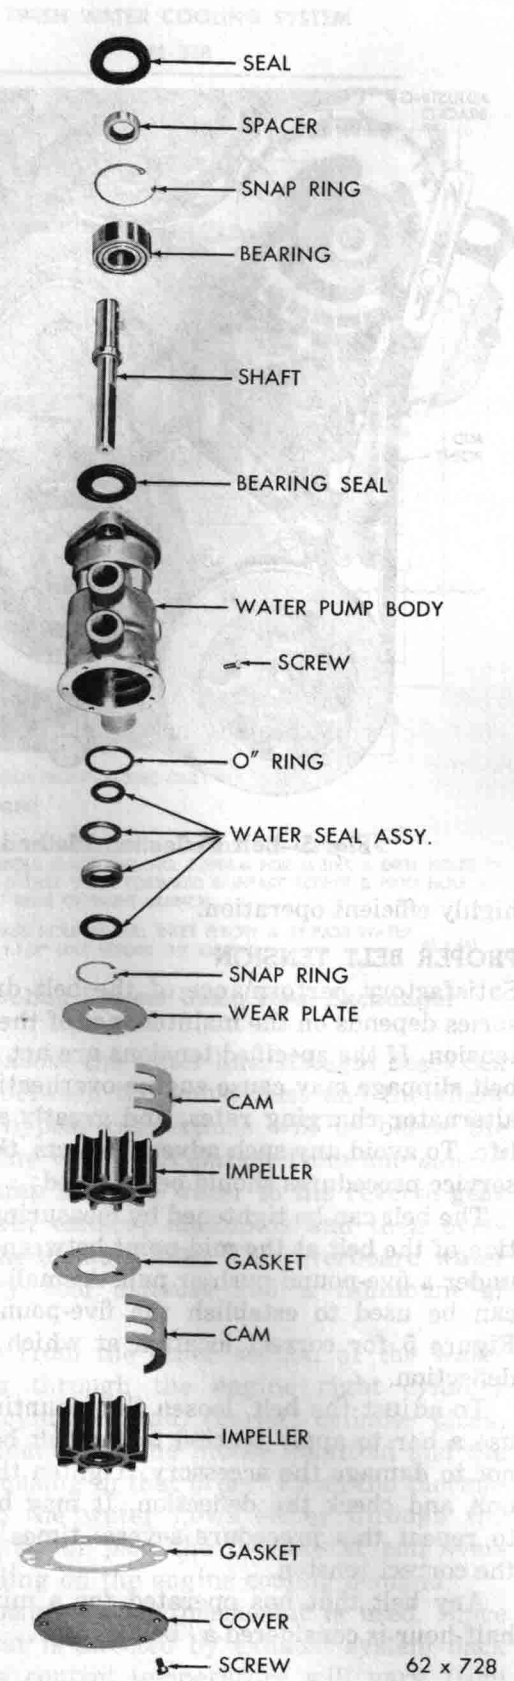
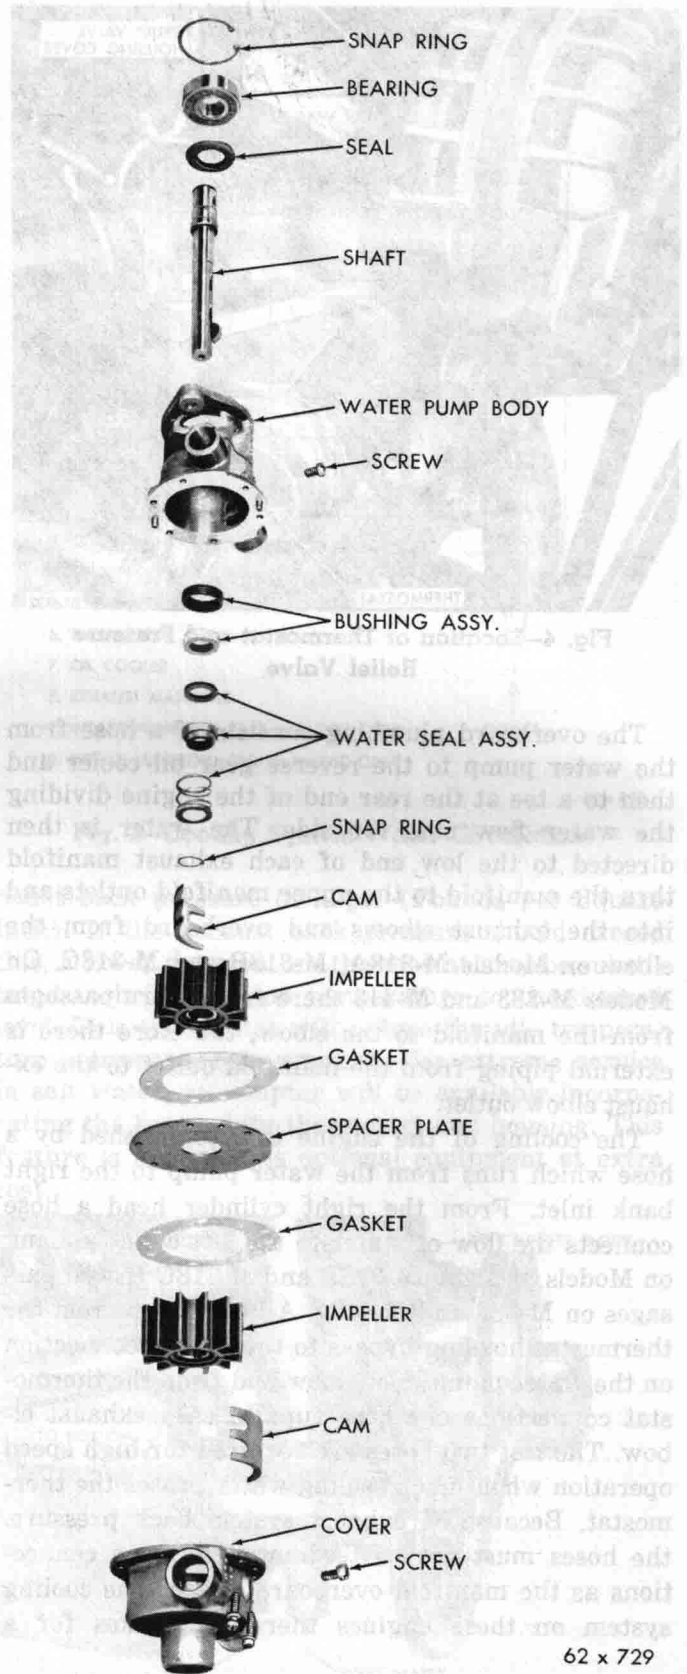

Fig. 6—Jabsco Water Pump (Disassembled View)
Fig. 7—Sherwood Water Pump (Disassembled View)
#### REMOVAL OF WATER PUMP (Figs 6 and 7)
#### DISASSEMBLY (Fig. 6) Jabsco Water Pump
- (1) Remove the end cover screws, cover and gasket.
- (2) Grasp outboard impeller with water pump pliers and remove the impeller from the shaft. (Fig. 6). In difficult cases and when reconditioning pump it may be necessary to press the shaft assembly out of the body by performing Step (6) through Step (8).
- (3) Remove the first cam and dowel assembly and the first wear plate.
- (4) Remove the inboard impeller, cam and dowel assembly and second wear plate.
- (5) Remove the snap ring using Tool C-760.
- (6) Use a small hooked wire between the shaft and the following parts to remove: seal spacer washer, seal, seal spacer washer, slinger washer and the "O" ring in the body.
- (7) Remove the pulley from the shaft.
- (8) Remove woodruff key, spacer, and the bearing snap ring using snap ring pliers Tool C-760.
- (9) Press the shaft and bearing assembly out of body toward the drive end. Remove the bearing seal from body.
- (10) Press the bearing off the shaft, supporting the bearing inner race only.
- (1) Lubricate all parts when assembling.
- (2) Install the bearing oil seal on the shaft with the lip toward the bearing.
- (3) Press the bearing on the shaft, pressing on the inner race only.
- (4) Install shaft and bearing assembly in the pump body, pressing on the outer race only.
- (5) Install the bearing snap ring with the beveled side away from the bearing.
- (6) Install the spacer.
- (7) Install "O" ring in pump body. See (Fig. 6).
- (8) Install slinger washer and one seal spacer. If a new seal position is desired, install both seal spacer washers.
- (9) Install water seal with lip toward impellers.
- (10) Install the snap ring.
- (11) Position a wear plate in the pump body with the slot in line with the cam screw holes.
- (12) Install a cam with dowels seated in wear plate and install cam screw securely.
- (13) Install an impeller. Turn the shaft in the direction of normal rotation, making sure that the impeller blades are trailing over the cam area.
- (14) Install the second wear plate with the slot in line with the cam screw hole.
- (15) Install the cam with dowels seated in wear plate and install cam screw securely.
- (16) Install the second impeller. Turn the shaft in the direction of normal rotation, making sure that the impeller blades are trailing over the cam area.
- (17) Position gasket over cam and install end cover, tightening screws securely.
**REMOVAL OF IMPELLERS (Fig. 7)****(Sherwood Water Pump)**